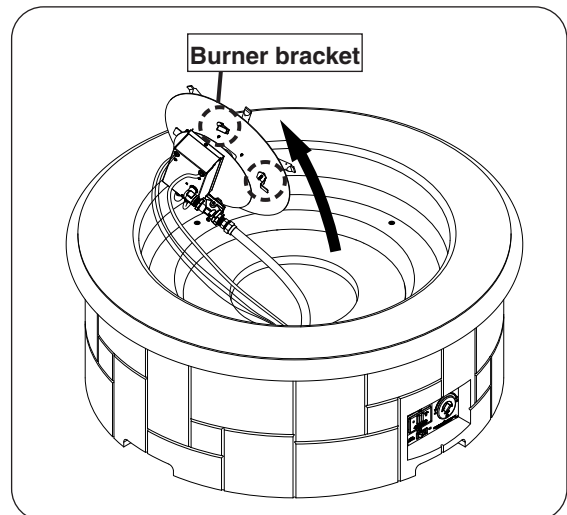

Fig. 26-2 Remove burner assembly
2. Use a $\frac{5}{16}$ " nut driver to partially unfasten the four screws found on the burner assembly. Then carefully remove the burner and set it off to the side. See Fig. 26-2.